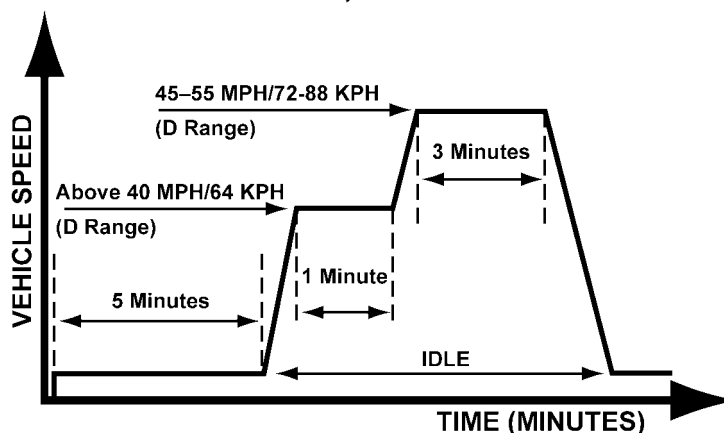

Figure MA000-10
3. Drive the vehicle as shown in the graph (Figure MA000-10). Driving condition before the constant speed driving is not specified.